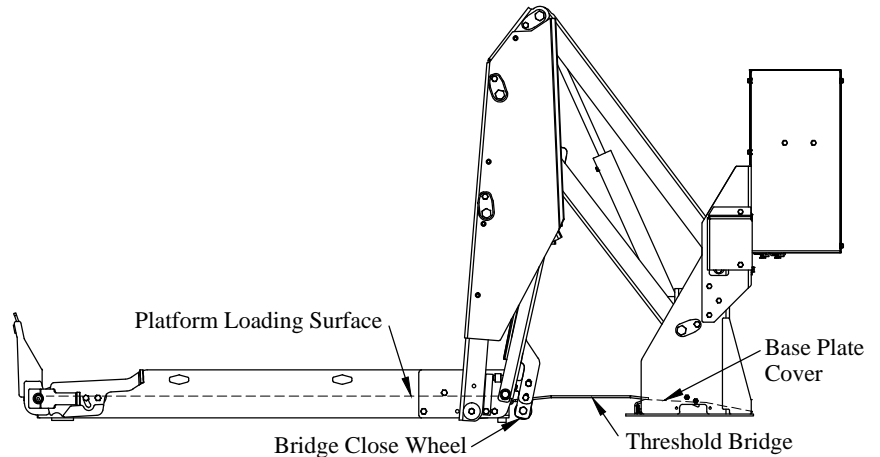

Figure 24: Platform and threshold bridge.
3. **Check** if the platform loading surface is even with base plate cover (Figure 24).
4. **Position** the platform so that it is even with the top of the base plate cover (Figure 24).
1. **Raise** the platform as high as it will go with just the pendant toggle (Figure 24).
3. **Adjust** each bridge close wheel so that it is tight against the bottom of the threshold bridge (Figure 24).